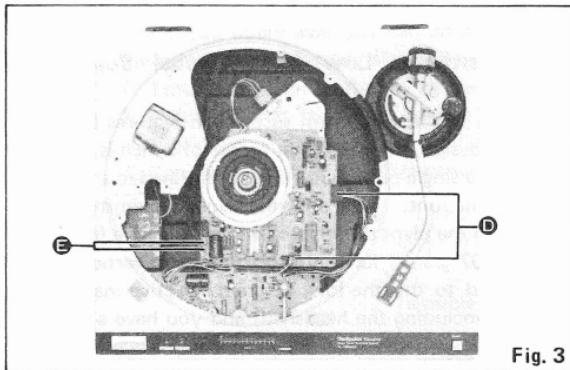

Fig. 3
9. Remove 2 connectors **D** and 2 read wires **E** from power transformer as shown in fig. 3.